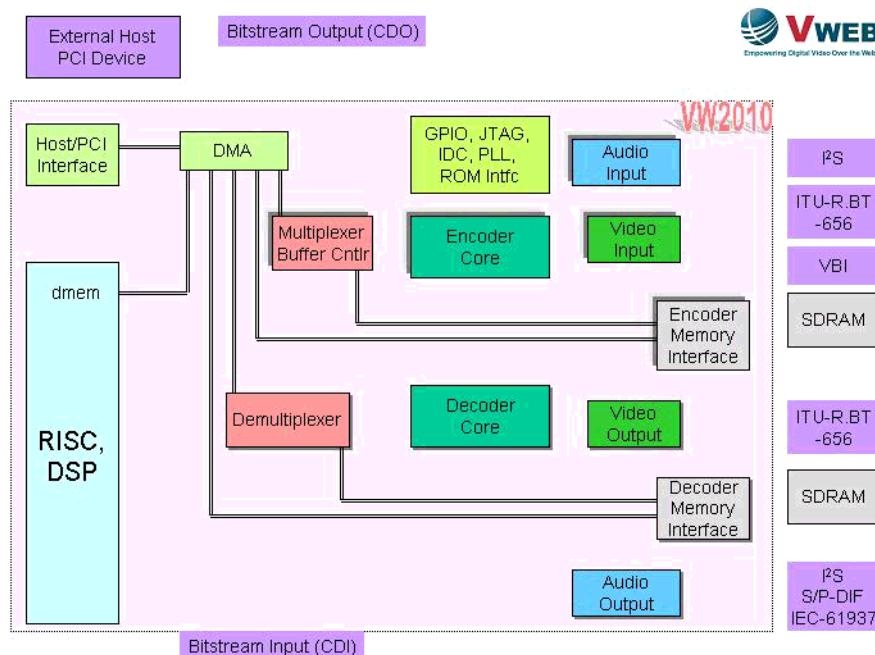

Figure 3 DMA Data Paths of the Vweb VW2010
- DMA channels between selected modules (shown in Figure 3 on page 8)
The data paths that can be set up via DMA channels between selected modules in the VW2010 are shown in Figure 3 on page 8. (Some of the data paths described in previous sections are actually implemented by means of these DMA paths.) As the figure shows, the DMA engine can be thought of as a direct bridge between the following devices in the chip:
Note: As Figure 3 on page 8 indicates (by omission), the chip's direct CDO port, and the bus from the MUX to the CDO port, are not available to the DMA engine.